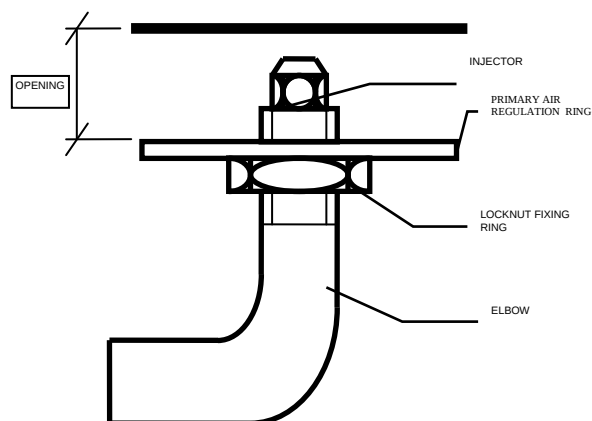

Fig. 2
- c) Unscrew the injector counterclockwise, according to fig. 2.
- a) Loosen locknut (fig. 2).
- a) Screw or unscrew the regulator ring of the burner up to opening "D" (fig. 2 & chart 6), according to the gas type to be installed.